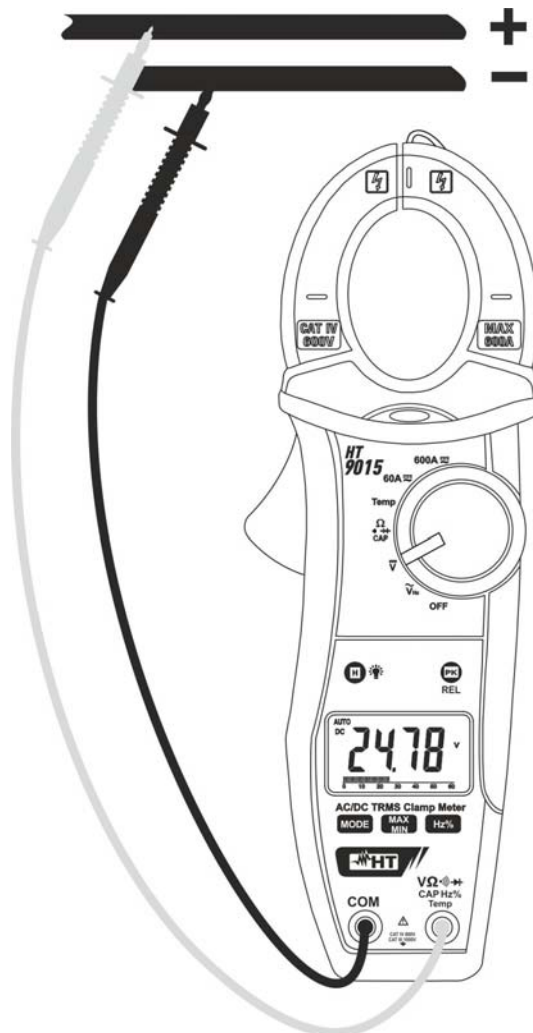

Fig. 4: Taking DC voltage measurements
2. Insert the red test lead plug into $V\Omega\rightarrow\rightarrow\rightarrow CAPHz\%Temp$ jack and the black test lead plug into **COM** jack (Fig. 4)